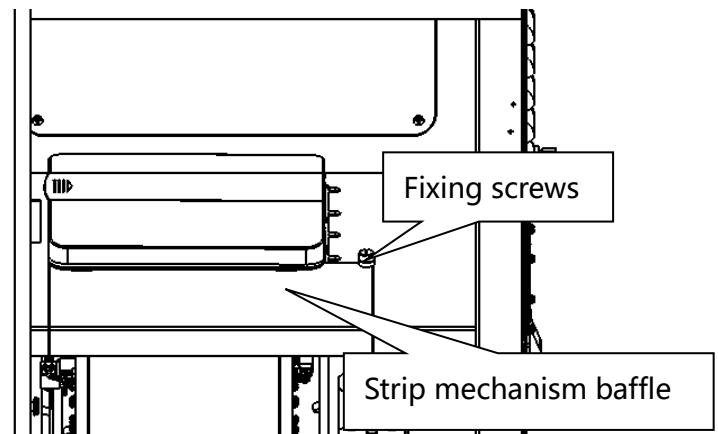

Figure 5-7
1. Remove the fixing screws of the selection mechanism baffle and take out the baffle (as shown in Figure 5-7).
Step 5: Install the selection mechanism baffle (Figure 5-7).